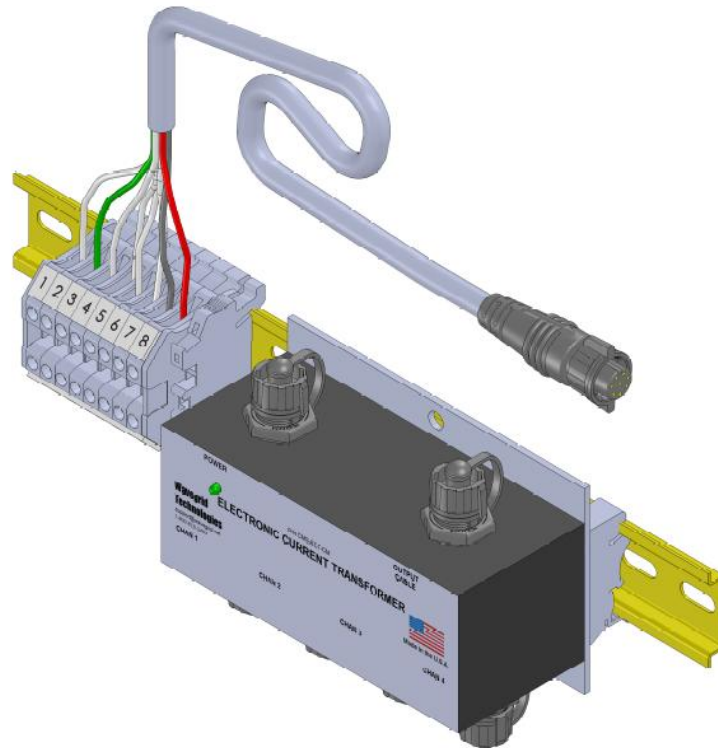

Figure 1: Isometric View of Control Module and Output Cable
1) Control Module and Cables: The control module has mounting holes and brackets on the rear plate and is pre-mounted on a din rail as shown in Figure 1. The module is equipped with 6 connectors to simplify installation and maintenance. The connectors connect 4 sensors, 1 power cable, and 1 output cable. The power cable is un-terminated at the customer end. The output cable is pre-terminated on the terminal block (pig tail cable).